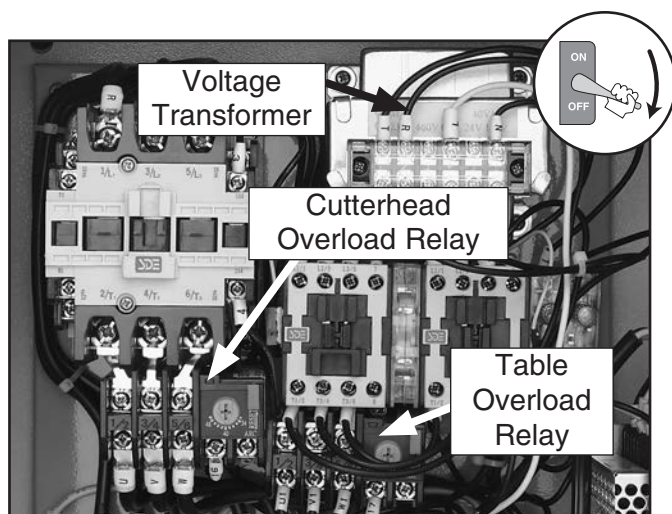

Figure 6. Location of voltage transformer and overload relays.
2. Open the main electrical box on the right side of the planer and locate the voltage transformer shown in **Figure 6**.
4. Replace the cutterhead overload relay (see **Figure 6**) with the included 440V overload relay that has an amperage dial range of 18–26A.
6. Replace the table overload relay (see **Figure 6**) with the included 440V overload relay that has an amperage dial range of 0.9–1.5A.